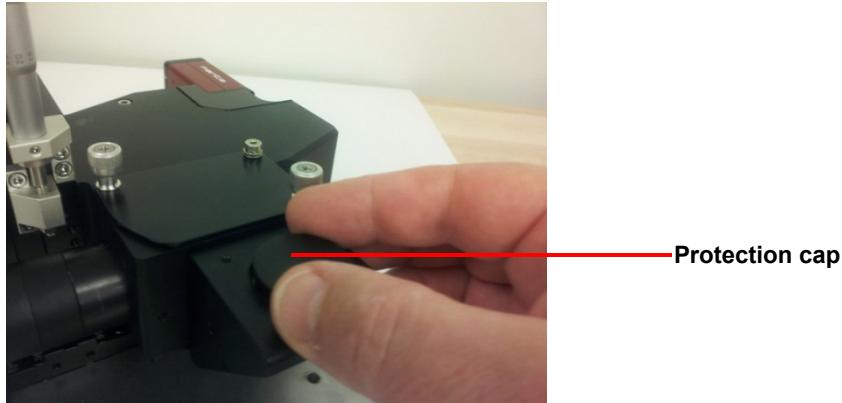

Figure 11 Remove the protection cap.
- 1 Remove the black protection cap (see Figure 11).